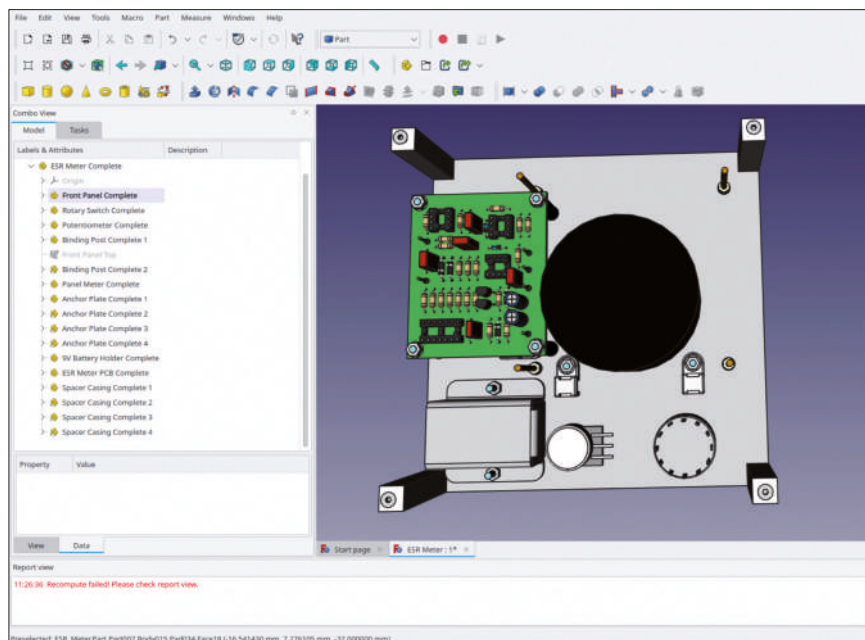

Figure 7-70
19. Rename the new spacer containers to numbered versions of the parent spacer. Drag-and-drop the new spacers into the 'ESR Meter Complete' std-Part-Container. Edit the placement parameters of the added objects such that the spacers are distributed into all the front panel corners ( $X, Y = \pm 75 \text{ mm}$ ). The result is shown in Figure 7-70.